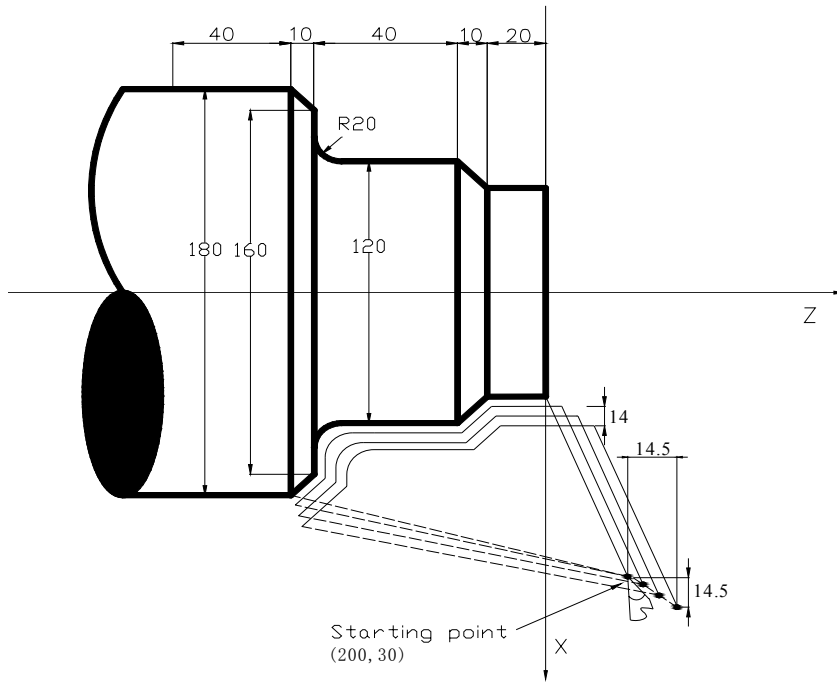

Fig. 4-44
- I — Retraction value on X axis during the first roughing (with sign). Refer to the distance I in Fig. 4-44.
- K — Retraction value on Z axis during the first roughing (with sign). Refer to the distance K in Fig. 4-44.
**【Execution process】** as Fig.4-44. Suppose  $L=2$  layers.
Cutting figure is shown as the shape in fig. 4-44: